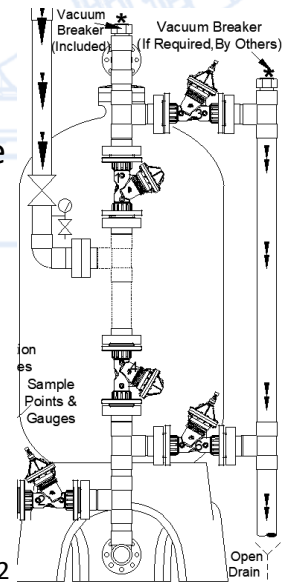

Fig. 4.2.2
-The drain lines should be as short as possible and piped to an open drain. Access to the drain and air gap are necessary for visual inspection and testing of the drain water. The air gap prevents sewage backing up into the unit. If the drain travels a long distance or through a substantial elevation change, an additional vacuum breaker is recommended on the drain line (see fig 4.2.2). The drain line size must be sized to easily handle the maximum regeneration flow rate with minimal pressure drop (2-4 psi).